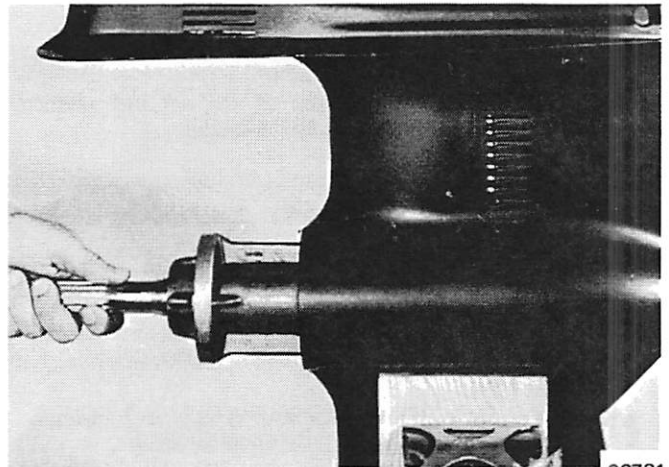

Figure 5. Removing Prop Shaft and Bearing Carrier
6. Bearing carrier assembly can be removed while removing propeller shaft. (Figure 5) Place propeller shaft in vise between 2 pieces of soft wood. Shaft assembly then can be removed by tapping lightly and evenly on skleg of gear housing with a mallet. Remove key from keyway from inside bottom of gear housing.